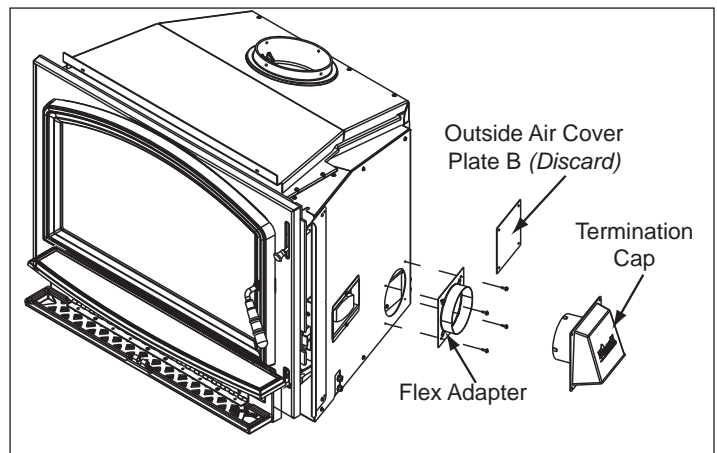

Figure 18.2
5. Remove the outside air cover plate B on outer can and discard. **Figure 18.2.**